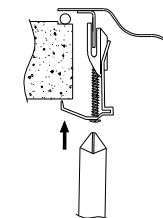

Fig 5.
3. Ensure all exposed worktop edges and any gap between the sinktop have a durable water tight seal as shown in fig 5.